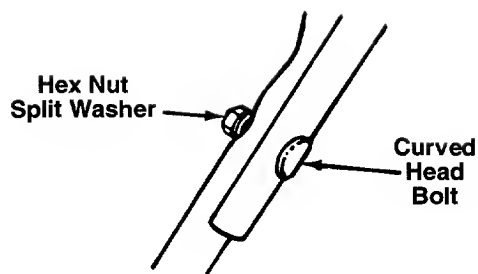

FIGURE 2.
- ← 2. Secure the upper handle to lower handle using the curved head bolts; split washers and hex nuts as shown in figure 2.